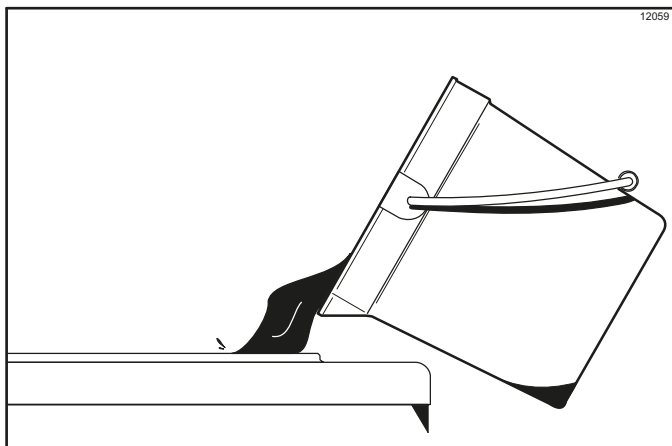

Figure 6-53
1. Pour 2 gal. (7.6 L) of cool, clean water into the mix hopper. With the blue hopper brush, scrub the mix hopper and the mix-level sensing probe. Using the double-ended brush, brush-clean the mix inlet hole. (See Figure 6-53.)